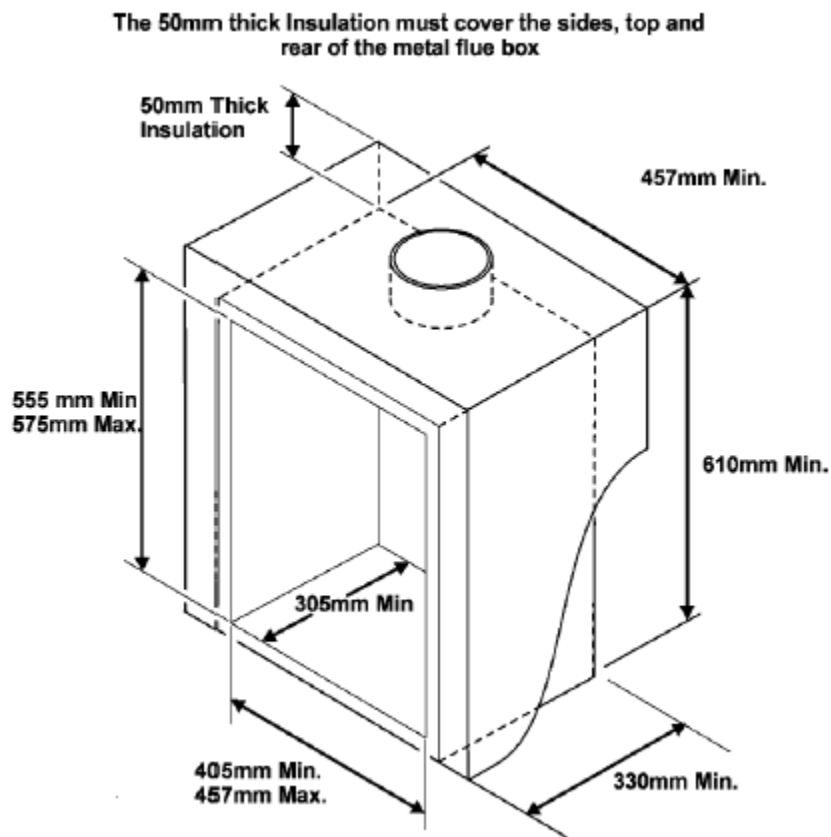

Figure 2. Metal flue box dimensions
4.2.2 To a fireplace incorporating a metal flue box complying with the constructional requirements of the current edition of BS 715 and with a flue conforming to BS EN 1856 part 1. The dimensions of the flue box must conform to those shown in figure 2.